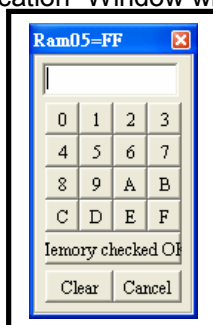

Figure 4.8 "RAM Modification" Window
Step 1, Open “Stack” Window, select the stack address supposed to be modified and double click the left button of the mouse, “Ram Modification” will show up as shown in the Figure 4.8.